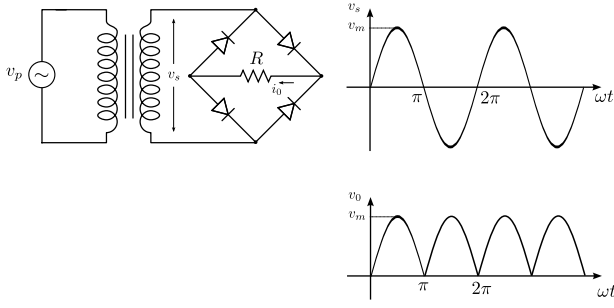
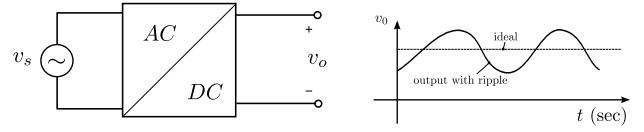

Fig. 1. An example figure. Figure captions should provide sufficient information to understand the image.
Fig. 2. An example figure. Figure captions should provide sufficient information to understand the image.
**Figure Labels:** Use words rather than symbols or abbreviations when writing Figure axis labels to avoid confusing the reader. As an example, write the quantity “Magnetization”, or “Magnetization, M”, not just “M”. If including units in the label, present them within parentheses. Do not label axes only with units. In the example, write “Magnetization (A/m)” or “Magnetization {A[m(1)]}”, not just “A/m”. Do not label axes with a ratio of quantities and units. For example, write “Temperature (K)”, not “Temperature/K”. See examples Fig. 1 and Fig. 2 in this document.